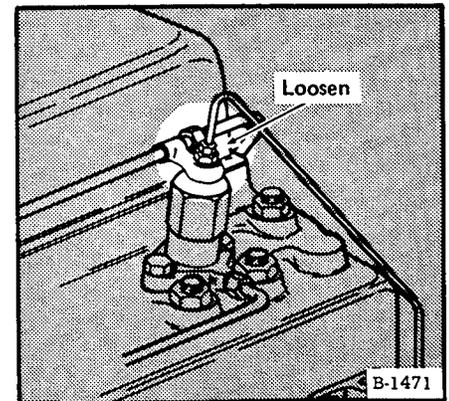

Fig. 1-30 Removing Air From Injectors
- (8) Retighten fitting at injection pump inlet.
- (9) Loosen fitting on injector end of each high pressure fuel line (four places) (Fig. 1-30).
- (10) Set throttle to full open position and operate starter until no air bubbles flow from loosened fittings.
- (11) Retighten fitting. Engine is now ready to start.